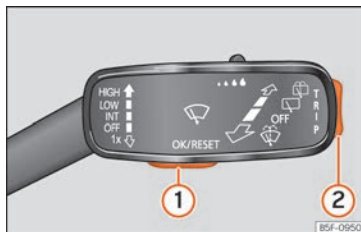

Fig. 125 Windscreen wipers lever: control buttons.
As long as a priority 1 »» page 110 warning is active, it will not be possible to access any menu. Some warnings can be confirmed and hidden with the button »» Fig. 125 ①.